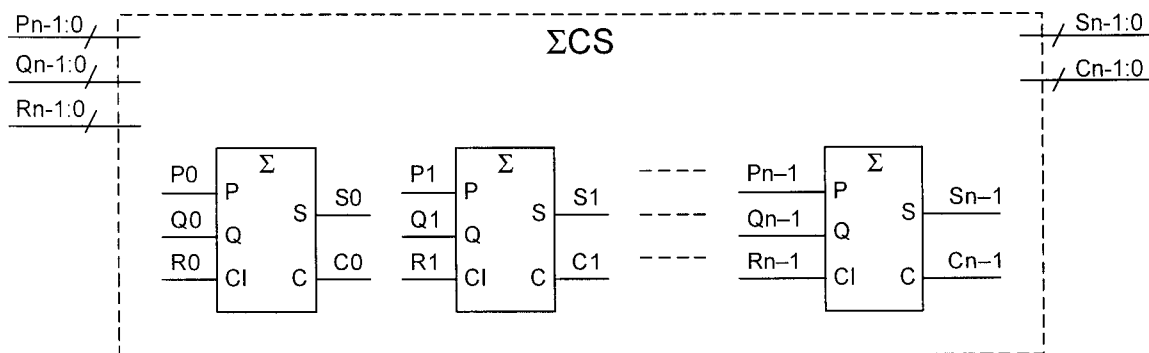

Figure 4.1
4. (a) Figure 4.1 shows the circuit of an n -bit carry-save adder module that is implemented using n independent full-adders. If p, q, \dots represent the values of the unsigned binary numbers $P_{n-1:0}, Q_{n-1:0}, \dots$ show that $p + q + r = 2c + s$. [4]